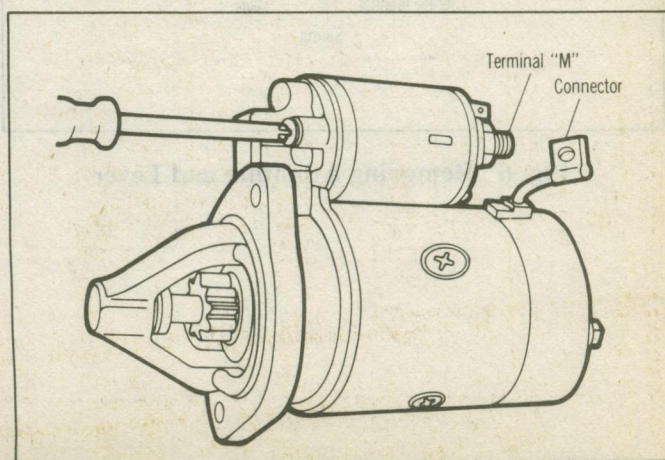

Fig. 4 Removing Magnetic Switch
(1) Remove the connector from the Terminal "M" and the two magnetic switch mounting screws. Now the magnetic switch can be removed. (Fig. 4)